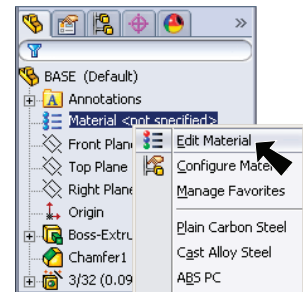

Fig. 12
Step 1. Right click **Material**  in the Feature Manager and click **Edit Material** , Fig. 12.